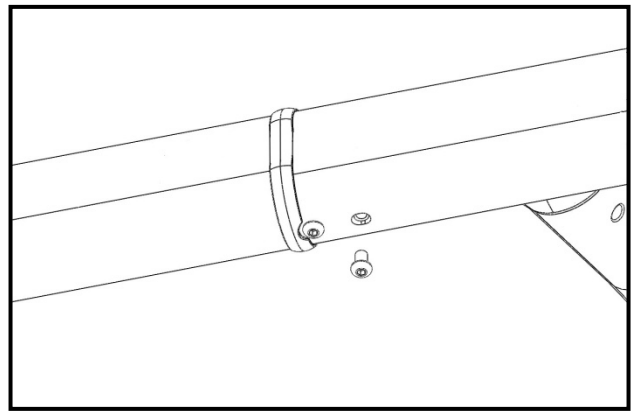

Fig. 13
13. Secure the console frame to the handrails (Fig. 13) by loosely threading two button head cap screws through the rail into the console frame.